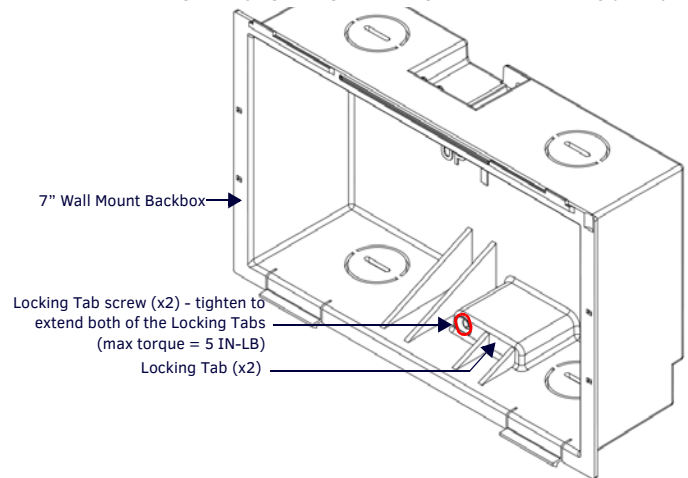

FIG. 3 7" BACKBOX - LOCKING TAB AND LOCKING TAB SCREW (X2)
- Extend the Locking Tabs by tightening the Locking Tab screws until snug (FIG. 3):